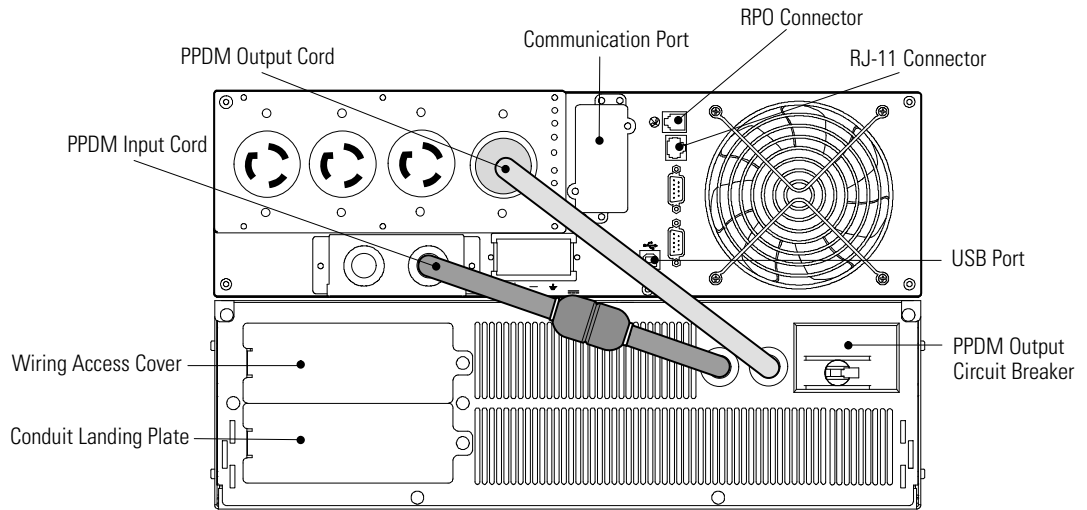

Figure 9. UPS and Hardwired PPDM Installation
2. Verify that the PPDM output circuit breaker is in the OFF position (see Figure 9 on page 23).
- Remove the wiring access cover and the conduit landing plate and retain (see Figure 9).
1. Verify that the PPDM output circuit breaker is in the OFF position (see Figure 9 on page 23).